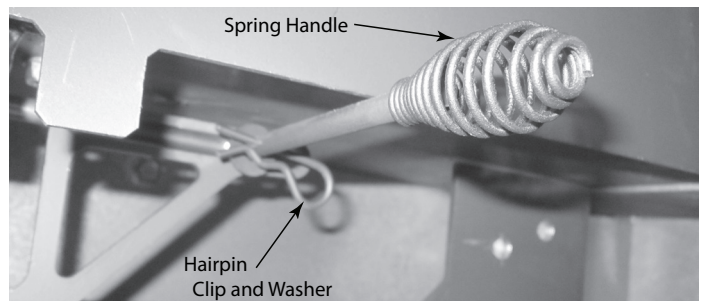

**Figure 4.26 Air Chamber Cover**
12. Reinstall air chamber cover. See Figure 4.26.
2. Remove the two (2) screws in the cover. See Figure 4.26 and pull it down and off. See Figure 4.27.